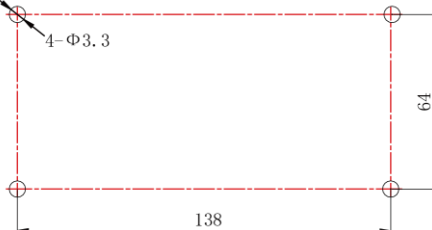

Fig. 1.9 Installation Holes of the Electric Box Rear Cover
- 2) In case that the centralized controller is installed inside the control cabinet, dig 4 installation holes on the surface of the control cabinet according to fig.1.9.
- (4) In step (1), pull out the power core and communication cord, and then lead them separately from the wire orifice of the electric box rear cover. Never lead the cords through a same orifice.
- (5) In step (2), locate the electric box rear cover to the installation holes of the wall with screw $\text{ST4.2} \times 16 \text{ FA}$.
- (6) In step (6), pull out the wire connecting the touch screen and controller's rear cover. Put the touch screen on a safe place.
- (7) In step (7), connect the communication cords to G1, G2 terminals, and connect the neutral wire and live wire to the N, L terminal; connect the ground wire to position  on the electric box rear cover. Secure it with screw $\text{M4} \times 12$.
- (8) In step (8), locate the controller's rear cover onto the electric box rear cover with screw $\text{ST4.2} \times 9.5 \text{ TC}$.
- (9) In step (9), connect the wire between touch screen and controller's rear cover.